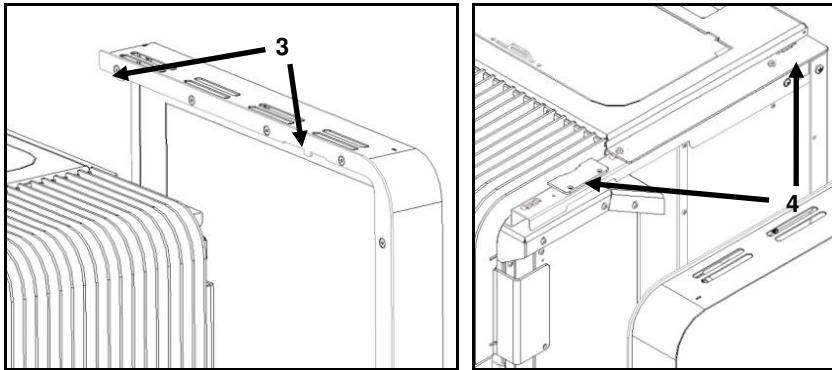

Figure 87 – Assembly of the Aspen covers
- e) Finally, screw **C** (DIN 7981 4,2x9,5), in hole 5, as shown in Figure 87.